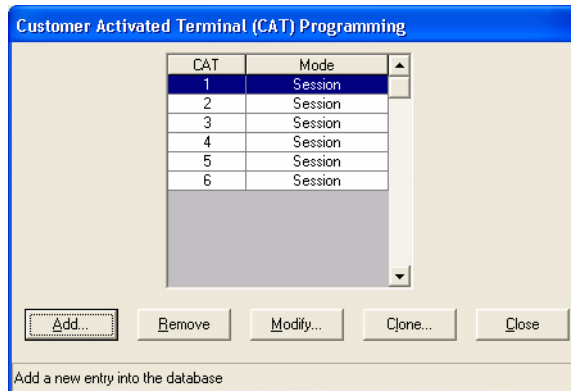

Figure 7-51 CAT Programming Window
1. From the Programming Access window select **System > CAT > Each**. See Figure 7-51.